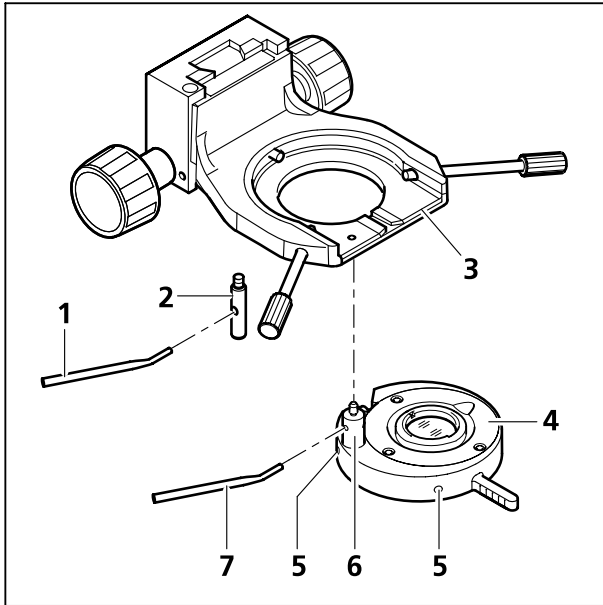

Fig. 3-48 Mounting the overview fixture
- Hold the overview fixture (Fig. 3-48/4) parallel to the bottom of the condenser carrier (Fig. 3-48/3) and screw the bracket bolt (Fig. 3-48/6) of the overview fixture with the angled adjustment lever (Fig. 3-48/7) into the front threaded opening to the left below the condenser carrier (Fig. 3-48/3) until it stops.
- With the adjustment lever (Fig. 3-48/1) screw the stop bolt (Fig. 3-48/2) into the back threaded opening of the condenser barrier (Fig. 3-48/3) to the stop.
- Adjust both adjustment screws (Fig. 3-48/5) with the aid of two hexagon socket screwdrivers (SW 1.5) until the field of vision is well lit.